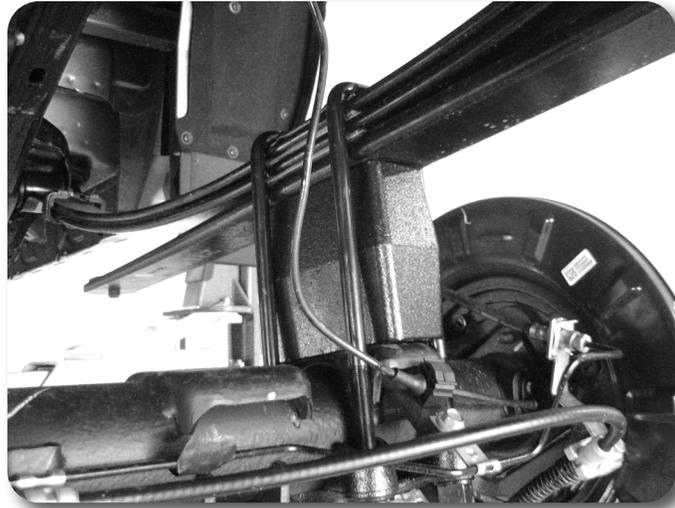

Figure 26
- Using the support jack, raise the axle so that the axle, spring and block are all touching. Install the new provided u-bolts, nuts and washers allow with the factory u-bolt plate **Figure 26**. Snug u-bolts but do not tighten.